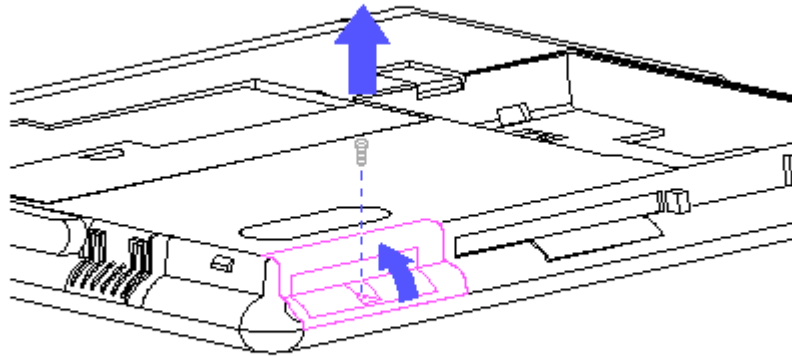

Figure 3-8. Removing the Screw from the PCMCIA Door
- a. Remove the screw from the PCMCIA hard drive bezel (Figure 3-8).